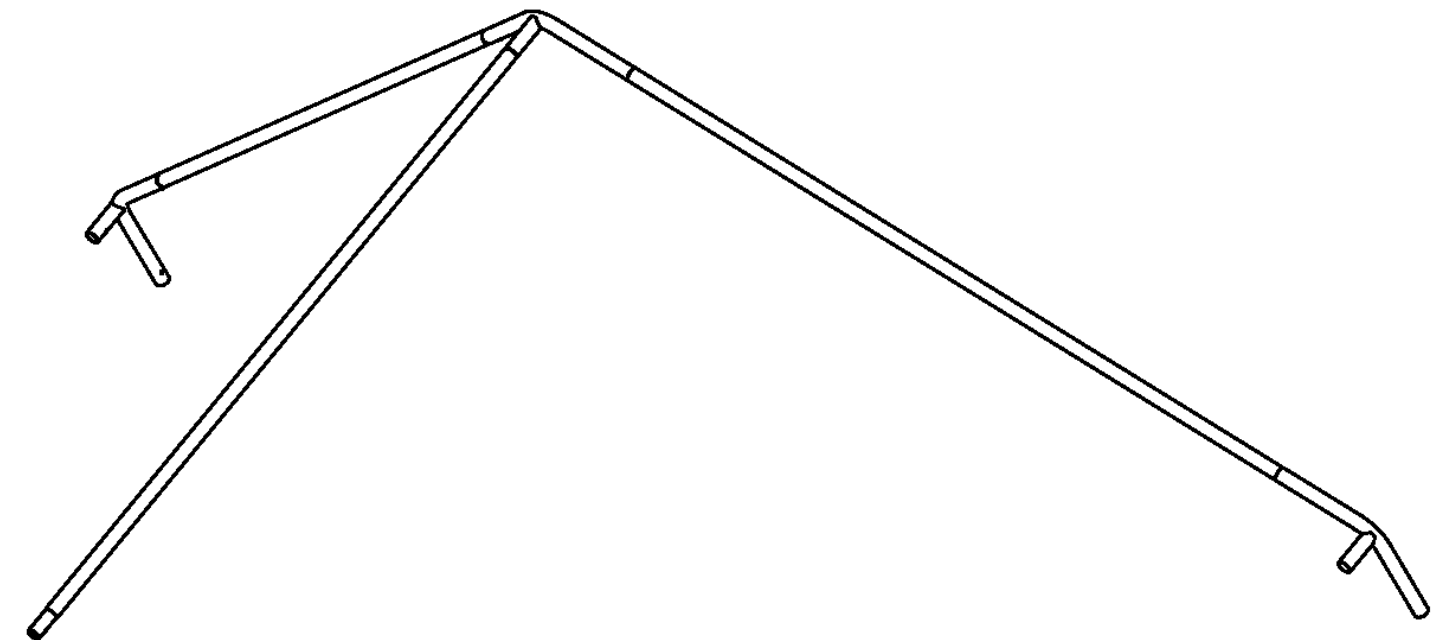
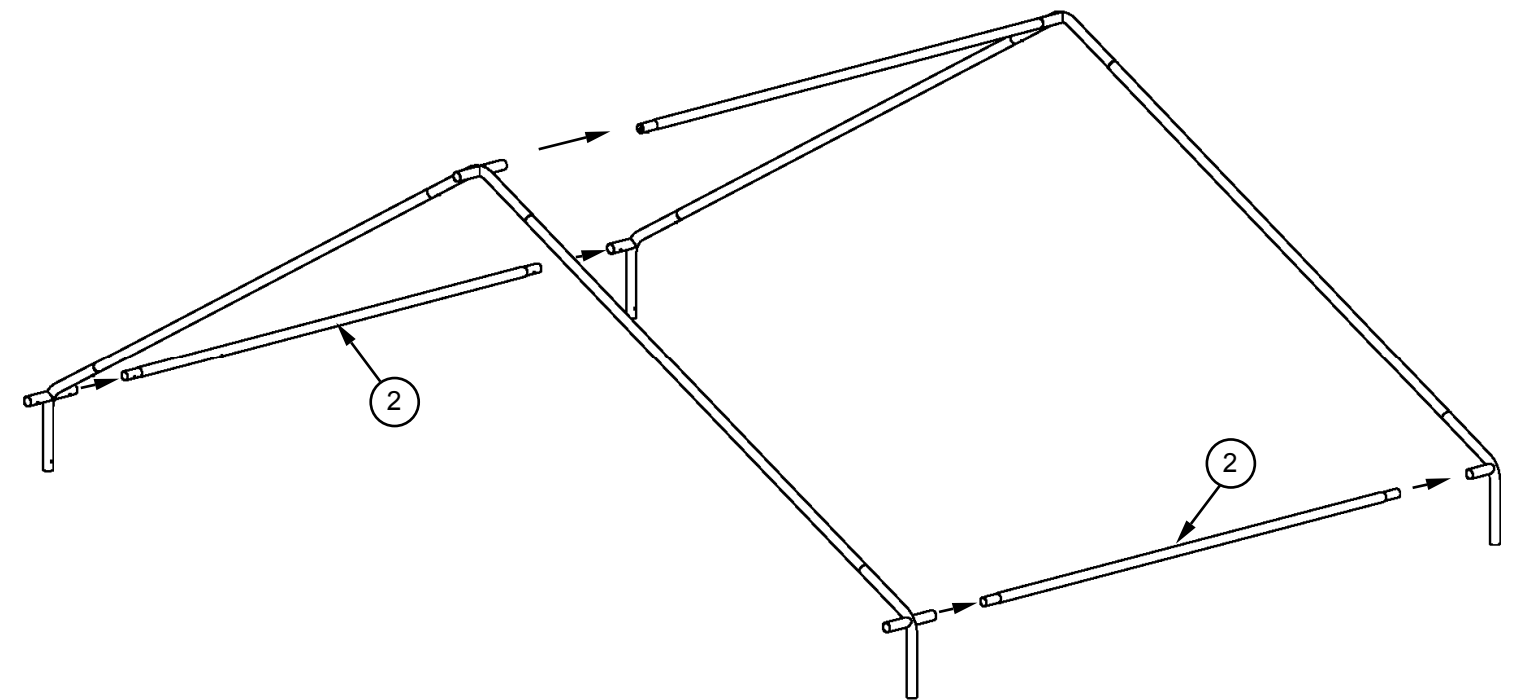

FIGURE 3
FIGURE 2
**WARNING:** Keep hands away from pinch points between all tubing. Insert a Ridge Tube, HP3554, into the top Fitting. Engage Snap Pin- see FIGURE 2. Raise the End Gable Frame and rest the free end of the Ridge on the ground- see FIGURE 3.
Assemble the Middle Gable Frame in a similar manner as the End Gable on page 5, "End Gable and Ridge Assembly"-see FIGURE 1. Join End and Middle Gable Assemblies with Ridge and Eave Tubes HP3554-see FIGURE 2. Insure that Snap Pins are engaged. Add additional Middle Gable Assemblies for a Structure larger than 20' x 20'.